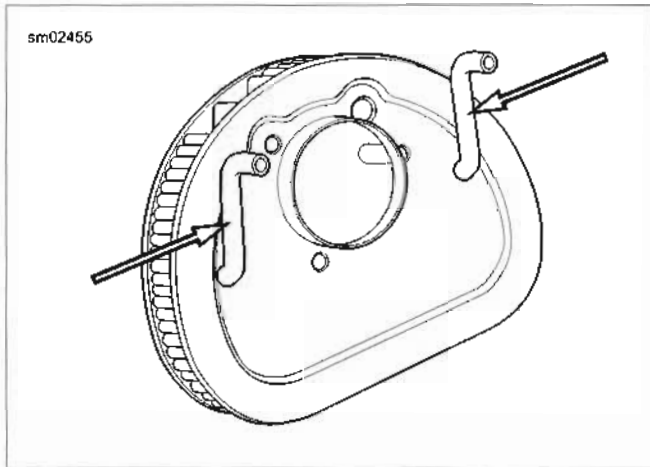

Figure 1-8. Breather Tubes on Backside of Filter
2. **Oval air cleaner:** See Figure 1-8. Insert two breather hoses into the holes in back of the filter element and place the element back into position. Attach breather hoses to breather screws on backplate.